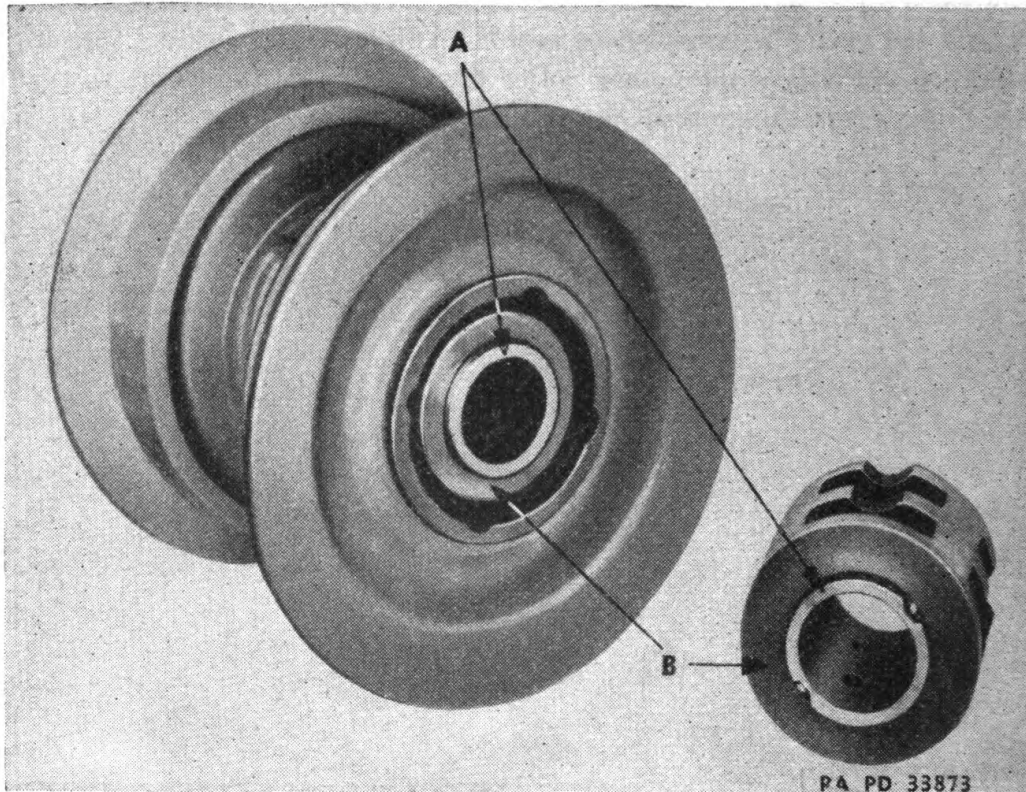

FIGURE 157.—Bushing removal.
(2) (a) Each roller bushing assembly consists of an iron bushing (B) (fig. 157) with a bronze insert bushing (A). Whenever a bronze insert bushing is to be replaced press out both the iron and bronze bushings. Clean thoroughly the recesses of the iron bushing before replacing it. Make certain the oil holes in the bronze insert bushing and the iron bushing are alined.